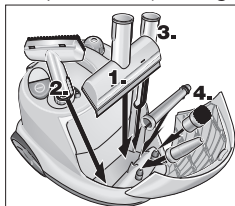

Figure 9: Accessory compartment
- Put the manual nozzle, the window nozzle, the detail nozzle, and small parts in the accessory compartment (see Figure 9).